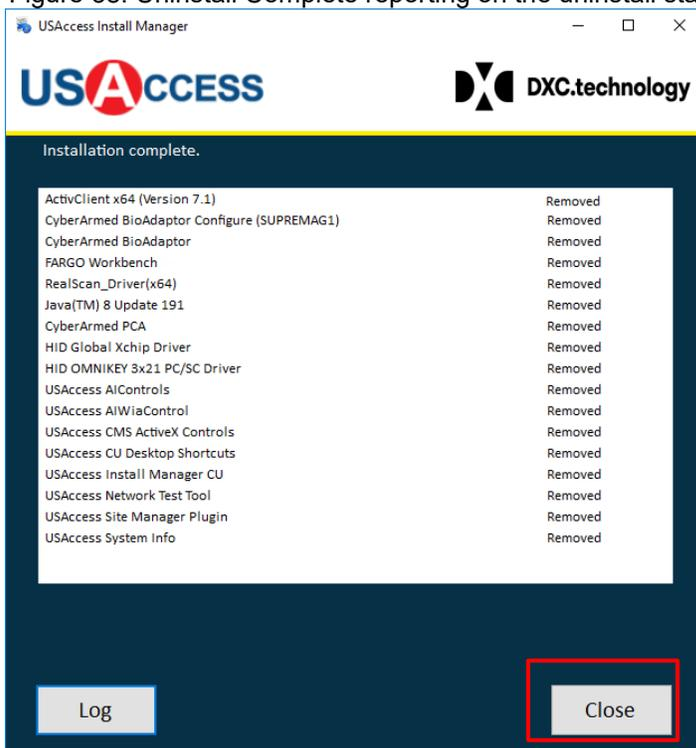

Figure 38: Uninstall Complete
8. Figure 38: Uninstall Complete reporting on the uninstall status of each application package.